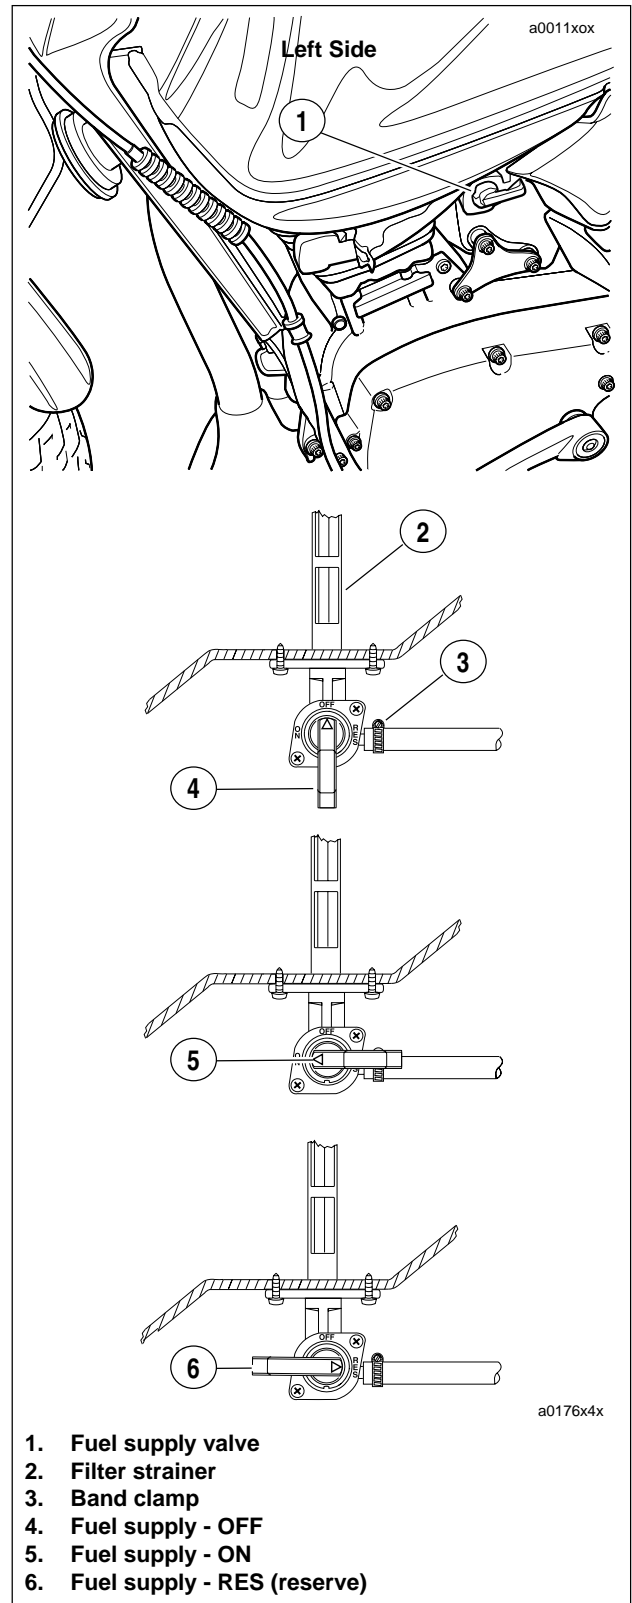

Figure 1-45. Fuel Supply Valve
- a. See Figure 1-45. Rotate handle on the fuel supply valve to the fully vertical position (4) to shut the gasoline supply to the carburetor OFF.
- d. See Figure 1-45. Rotate handle of fuel supply valve to RES (reserve) (6) of to start the flow of fuel.